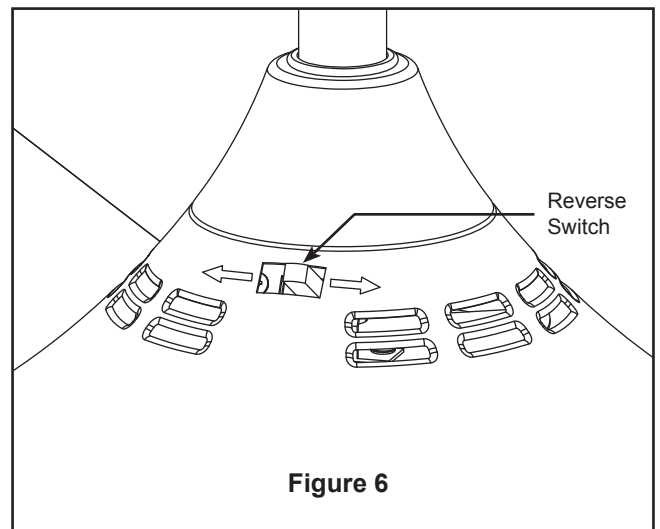

Figure 6
- ### 6. If airflow is desired in the opposite direction, turn the fan off and wait for the blades to stop turning. Then slide the reverse switch on top of motor assembly to the opposite position and turn fan on again. (Figure 6)